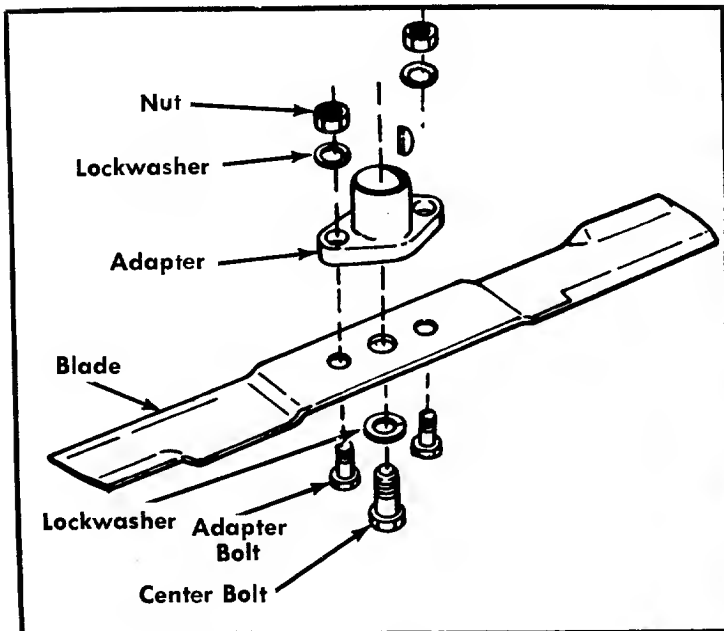

FIGURE 17. BLADE REMOVAL
Step 2. Remove the blade by removing the hex head cap screw in the center of the blade. Hold the blade with one hand and using a $\frac{1}{2}$ " open end, box or adjustable wrench, remove the bolt. See figure 17.
Step 2. Remove the blade by removing the hex head cap screw in the center of the blade. Hold the blade with one hand and using a ½" open end, box or adjustable wrench, remove the nut. See figure 17.
- Step 5. Lubricate all lubrication points indicated in figure 17; then wipe the entire machine with an oiled rag in order to protect the surfaces.